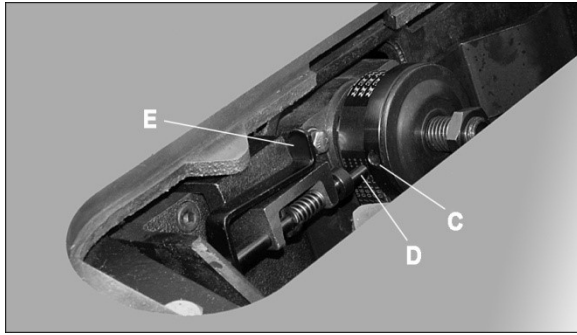

Figure 17
2. Remove *nut* (A) and *flange* (B), and install blade onto arbor, making sure the teeth point downward toward front of saw.
3. Install *flange* (B) and *nut* (A).
4. Rotate arbor until hole (C, Figure 17) aligns with *arbor lock pin* (D). Push tab (E) to seat pin into hole, and hold to prevent blade rotation.
5. Tighten nut (A) with arbor wrench.
6. Release arbor lock (E).